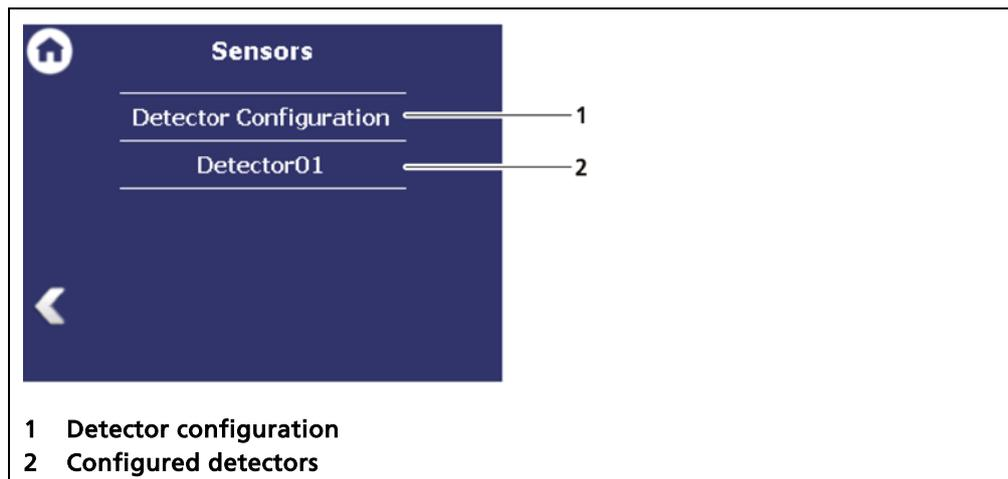
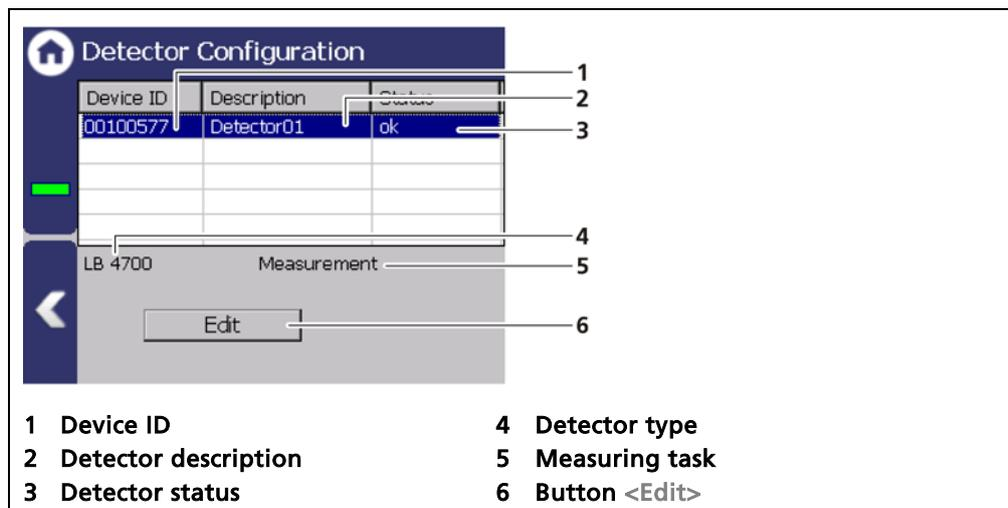

Fig. 58 Menu "Sensors"
Fig. 59 Detector configuration
- Detector configuration (Fig. 58, item 1)
- Configuration of the respective detector (Fig. 58, item 2)
In the sub-menu “Detector configuration” the detectors for the measuring system are added and configured. Only configured detectors are listed and shown in the menu (Fig. 58). When a detector is selected, the detector type (Fig. 59, item 4) and measuring task (Fig. 59, item 5) are shown.
Clicking the box <Edit> (Fig. 59, item 6) selects the type of detector and changes the description.
The editing of the settings of a configured detector are edited by marking and clicking on <Edit> (Fig. 59, item 6).
Detector description. Is displayed in error messages, event logs and in the menu structure (Fig. 58).